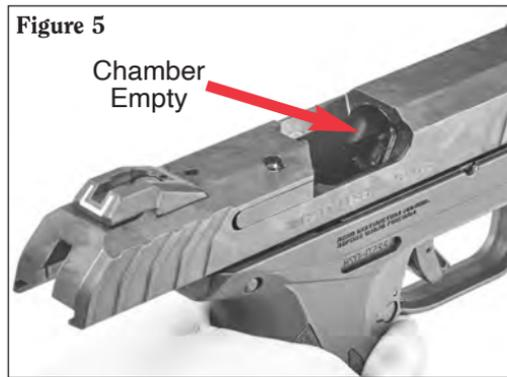

Figure 3
1. **Keep pistol pointed in a safe direction.** Press the magazine latch and withdraw the magazine from the frame (see Figure 3).